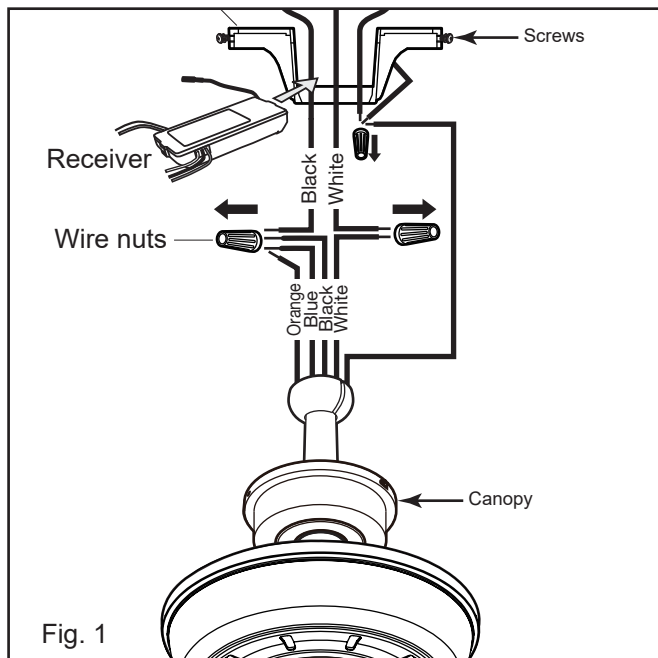

Fig. 1
1. Remove the ceiling fan canopy from the hanger bracket. (Fig. 1)
2. Disconnect the existing wiring between the ceiling fan and supply at the electrical junction box. (Fig. 1)
3. Lay the black antenna wire on top of the receiver, and put the receiver in the mounting bracket. (Fig. 1)